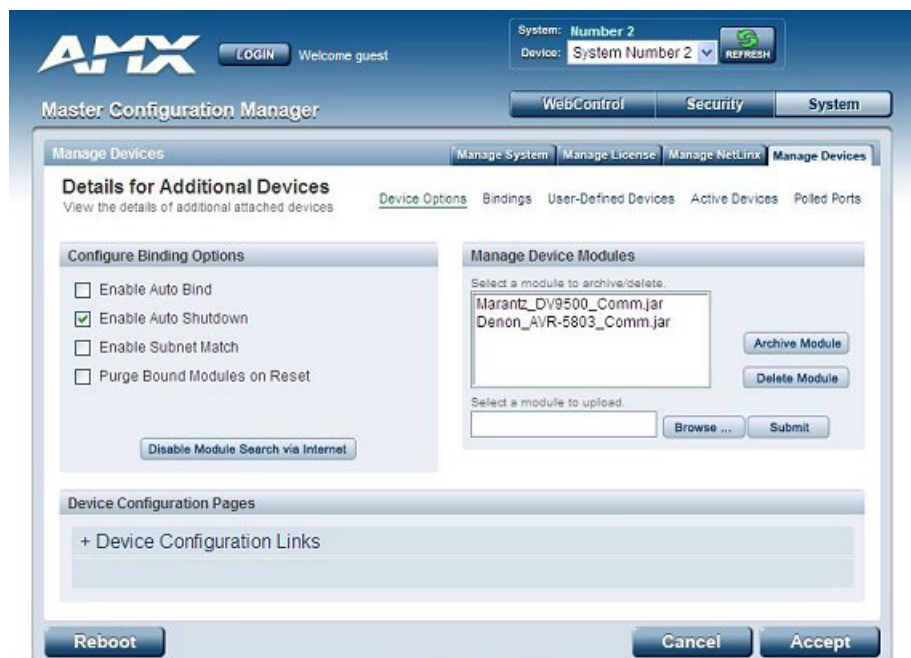

FIG. 105 NetLinX Central Controller's WebConsole - Manage Devices tab
1. Select **System**, and open the **Manage Devices** tab (FIG. 105):